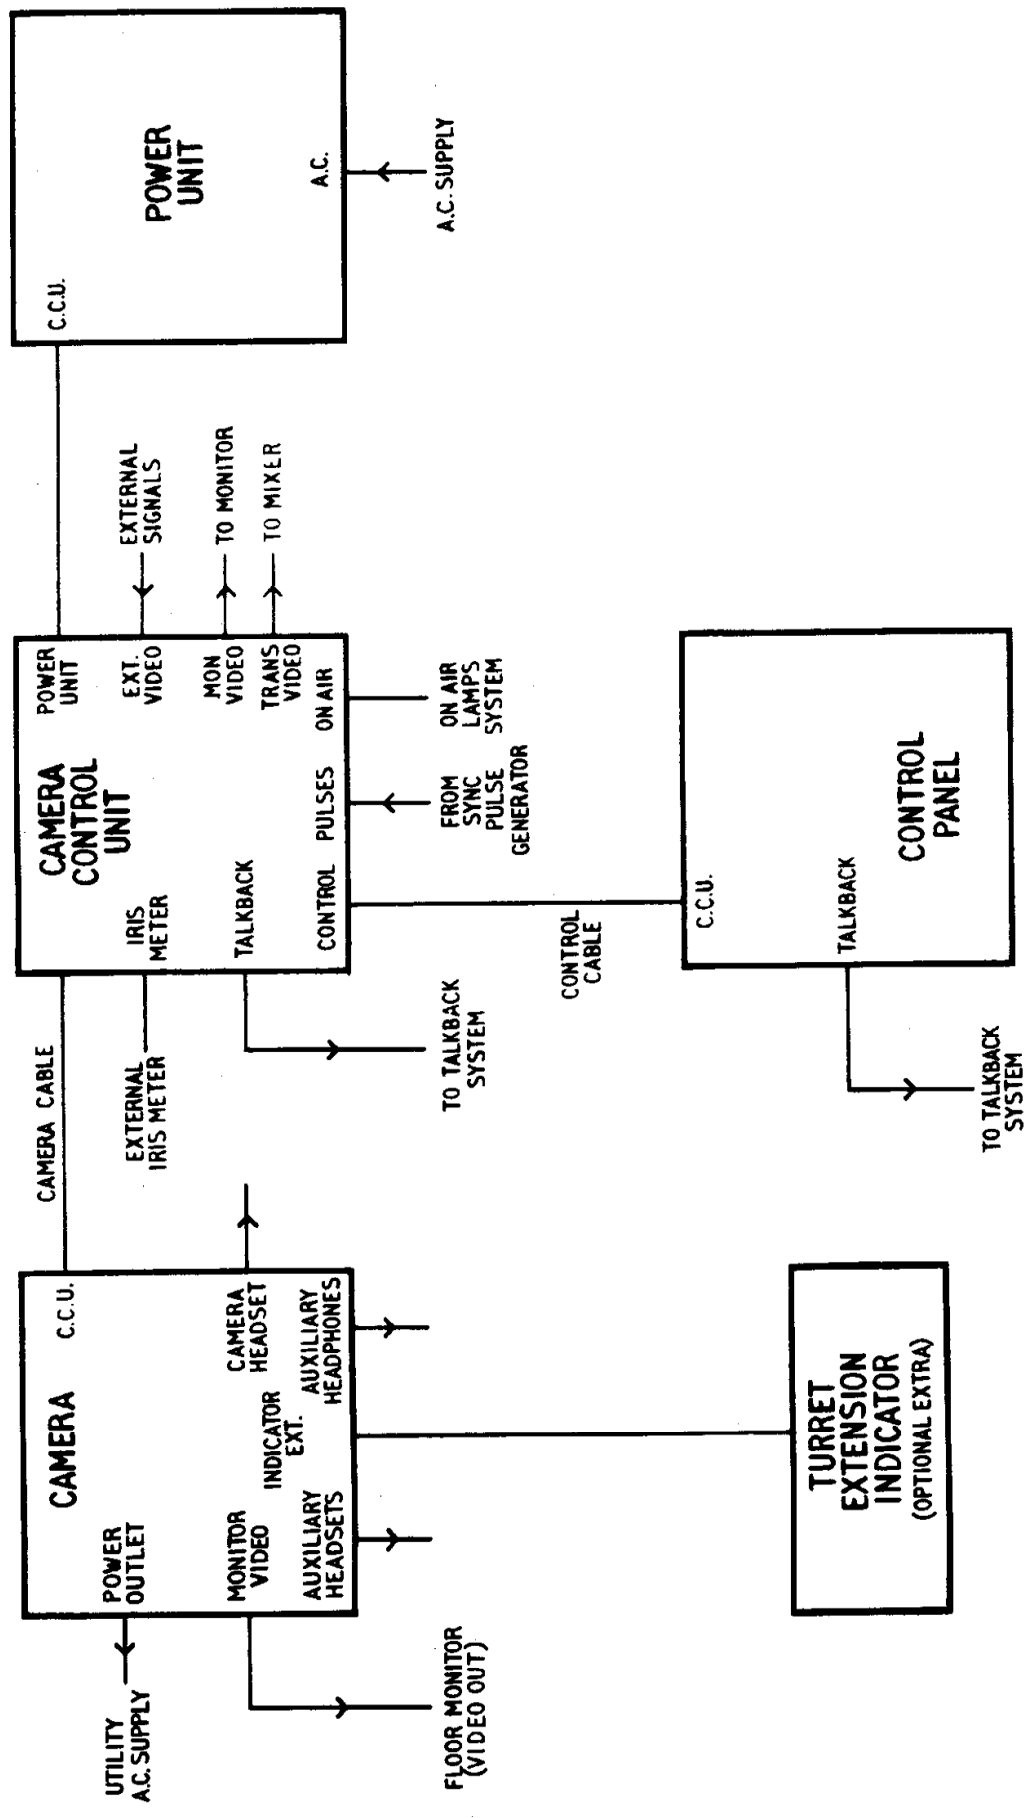

FIG.12 INTERCONNECTION OF UNITS
2.2.3 Cabling (Fig.12)
This unit is normally mounted on a control desk. Connection is made to the C.C.U. via the 75-way cable from the plug marked C.C.U., and to the talkback system from the 20-way socket, TALKBACK (Fig.12).